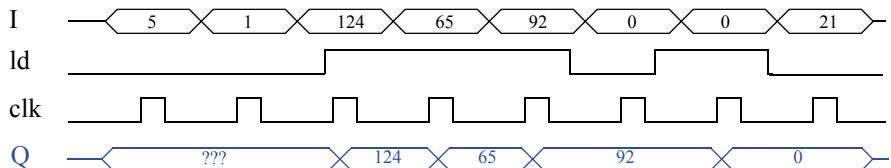

Figure 4.95
- 4.1. Trace the behavior of an 8-bit parallel load register with 8-bit input I, 8-bit output Q, and load control input *ld* by completing the timing diagram in Figure 4.95.